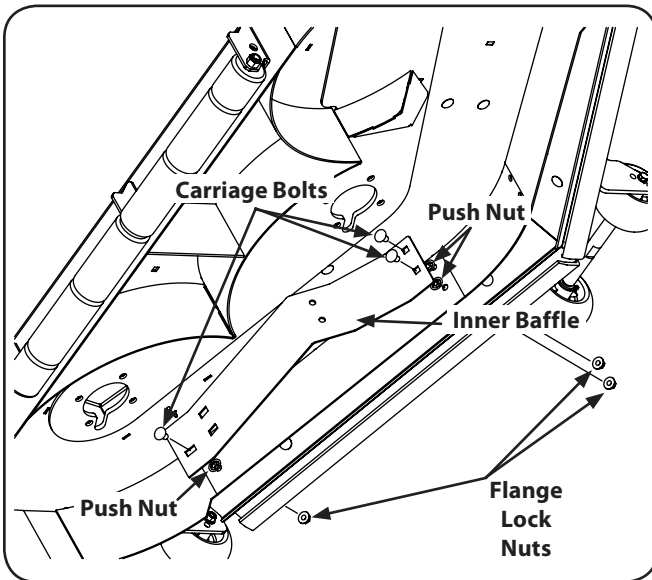

Figure 6-7
1. Remove the carriage bolts, push nuts and flange lock nuts that secure the baffle to the deck to mow high-volume grasses. See Figure 6-7.